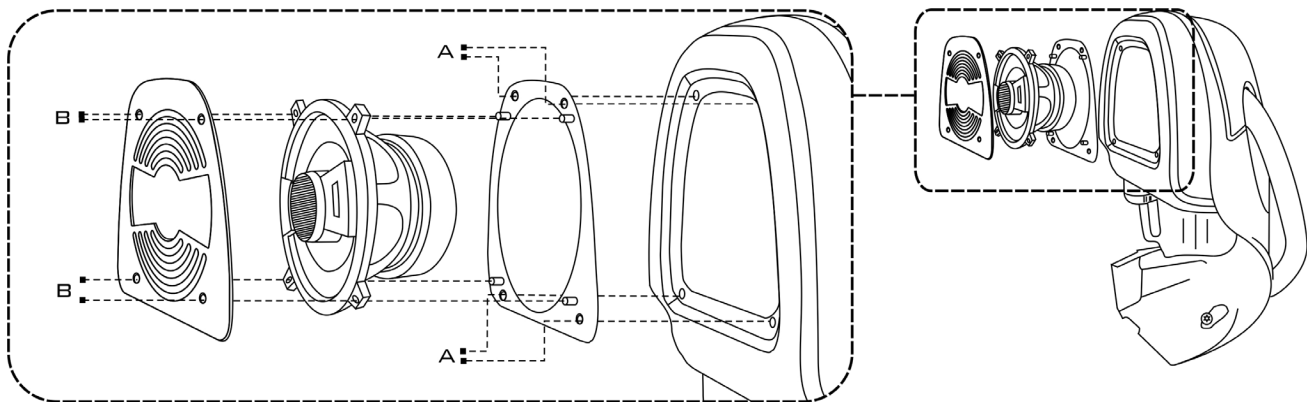

FIGURE 1.2
8. PLACE THE SPEAKER ADAPTER BRACKETS ON THE GLOVE BOXS WITH THE MOUNTING POSTS FACING OUTWARD AS SHOWN IN THE FIGURE 1.2, AND FASTEN USING THE SUPPLIED HARDWARE (A).